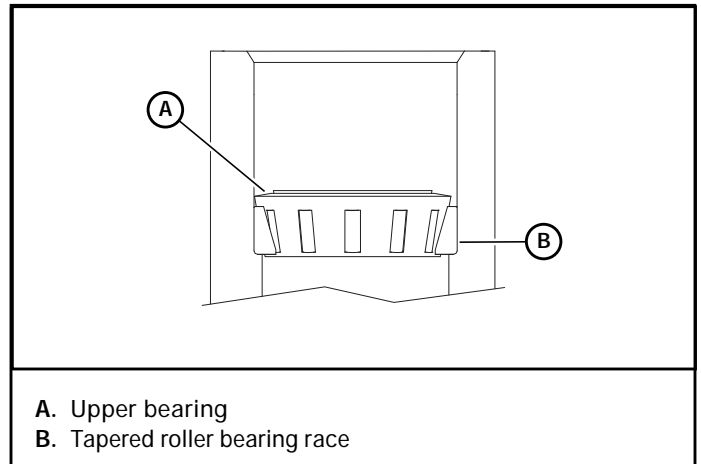

Figure 6-26
10. Install the upper bearing. Figure 6-26